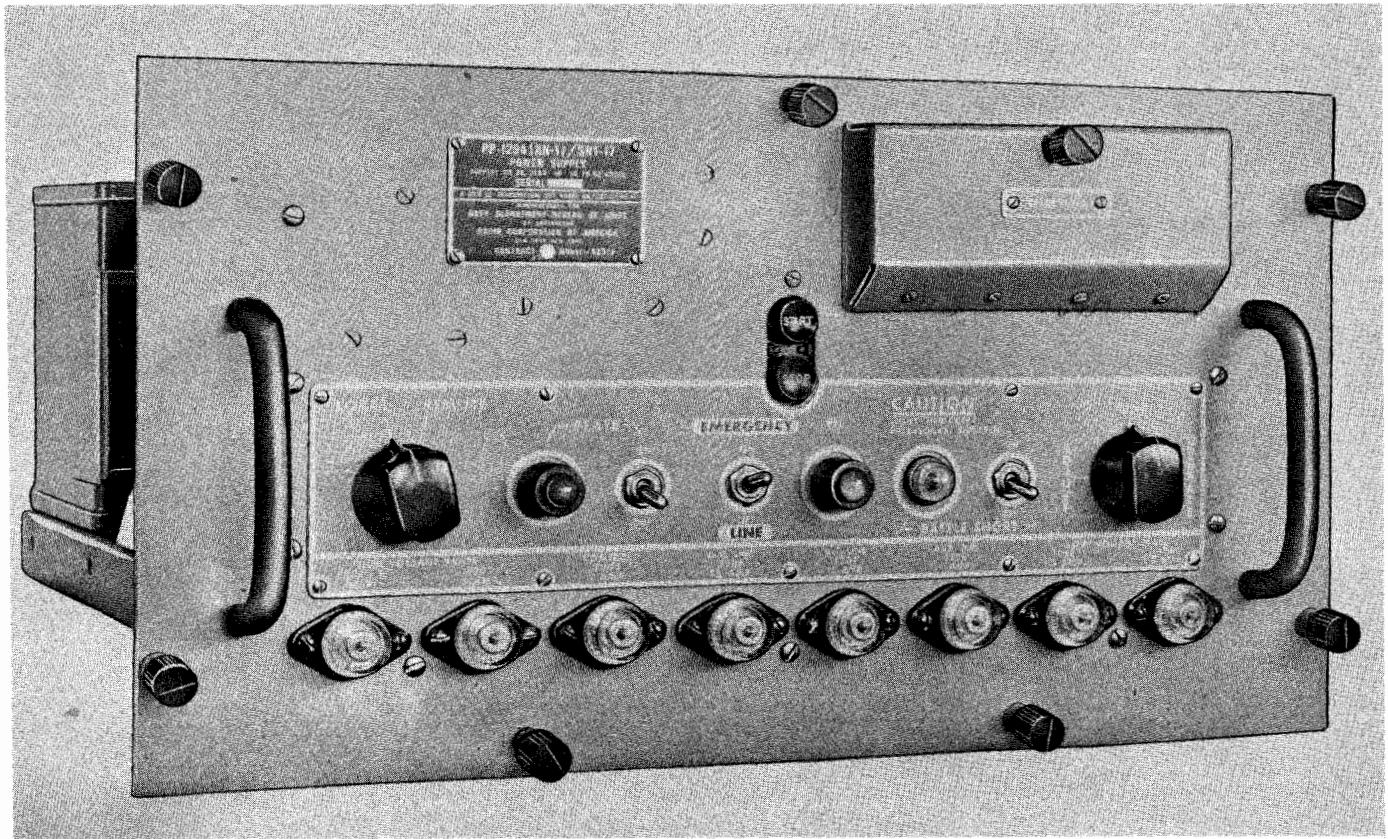

Figure 1-4. Power Supply PP-1294(XN-1)/SRT-17
c. POWER SUPPLY PP-1294(XN-1)/SRT-17 (see figure 1-4).